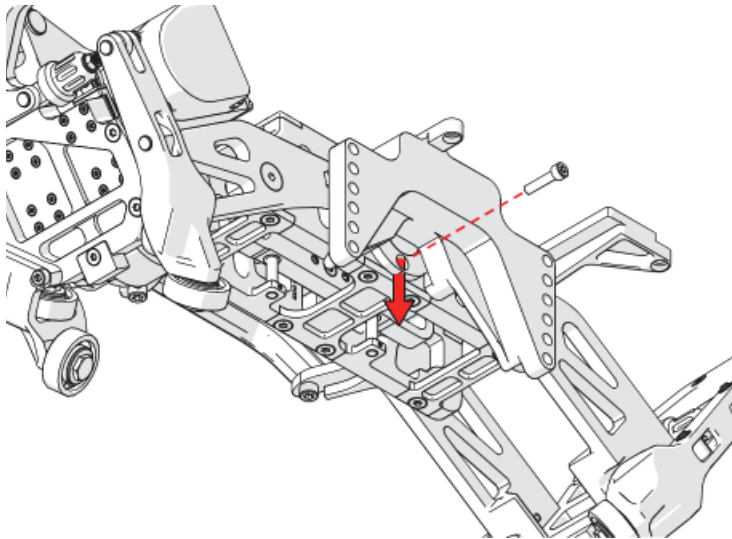

Figure 2-7 Removing the wheel puller tool and screw
7. Using a T25 Torx driver, remove the wheel puller screw (see Figure 2-7 on page 88).
8. Remove the wheel puller tool from the motor carriage (see Figure 2-7 on page 88).